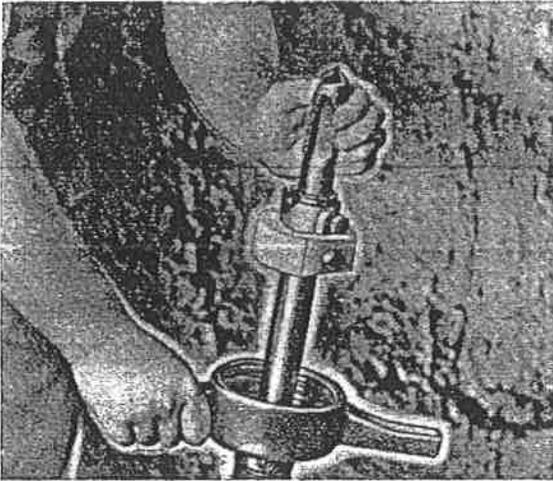

FIGURE 4
2. Insert shank end of combined drill and tap into boring bar socket aligning driving pins on tool with slots in end of boring bar. FIGURE 4.